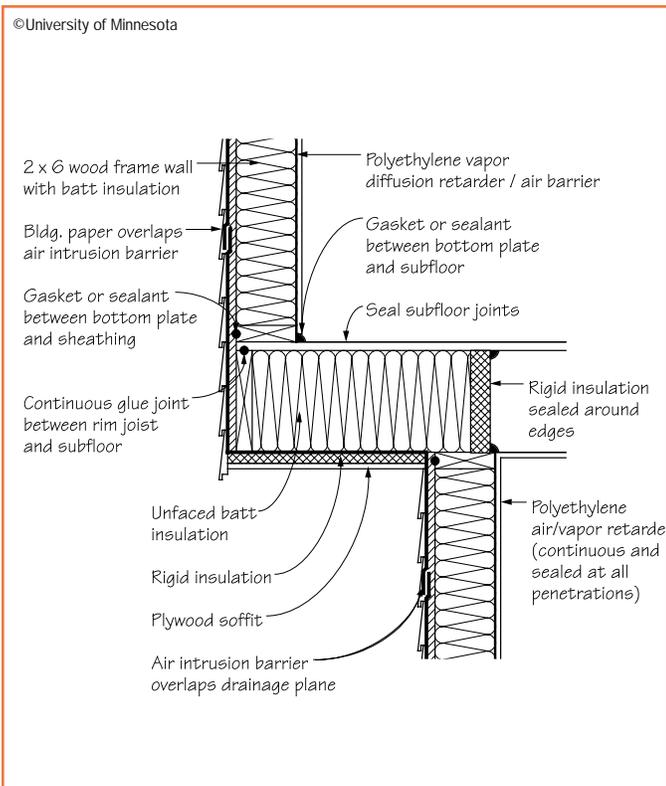

Figure 6. Blocking at Cantilvered Floor
• **Cantilevered floors**—While the use of a cantilevered upper floor can increase floor area, maximize the structural properties of the floor system, and add to the architectural character of the house at a small initial cost, it has several inherent drawbacks in our climate. It can be hard to insulate properly and makes it especially difficult to incorporate a continuous interior air barrier. This makes this area of the home very susceptible to both excessive heat loss and condensation problems. Blocking or rigid insulation must be added to serve as an air barrier (see Figure 6.). A weather barrier and rigid insulated sheathing is recommended below the floor system to improve comfort and reduce the condensation potential. It is critical that plumbing and ductwork be eliminated in the cantilevered area.